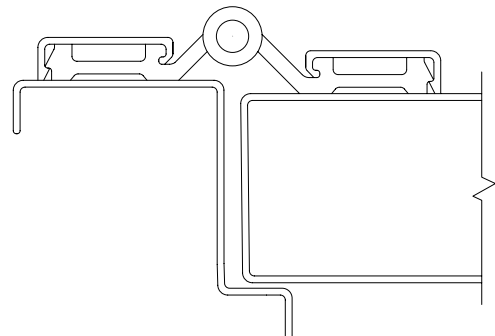

FIGURE 2e
4. The Full Surface Continuous Hinge, Figure 2e has one leaf mounted to the frame face and the other leaf mounted to the door face.